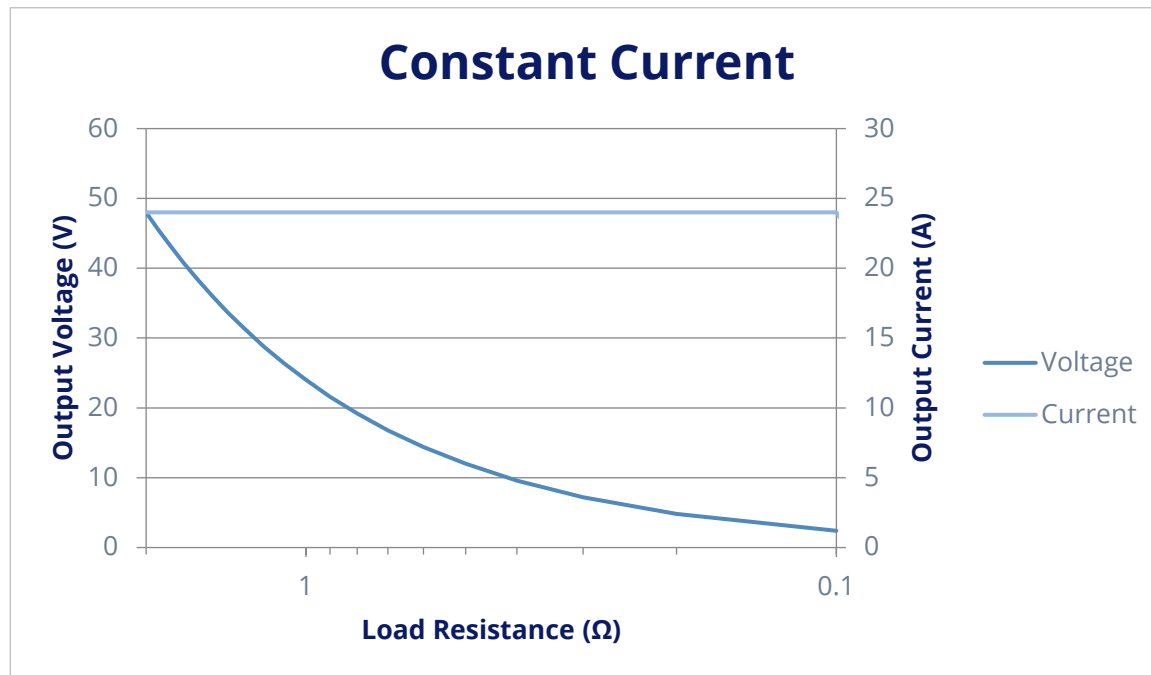

Figure 4 – Constant Current Output
The Constant Current (CC) operating mode can be viewed as a parallel to the aforementioned Constant Voltage operating mode. The goal of Constant Current Mode in power supplies is to maintain a set current output over changing load conditions. In Figure 4, the same 48V converter is programmed with a constant current setpoint of 24A. At a 2Ω load resistance, the output voltage is 48V and will decrease with load resistance to maintain a 24A output current.